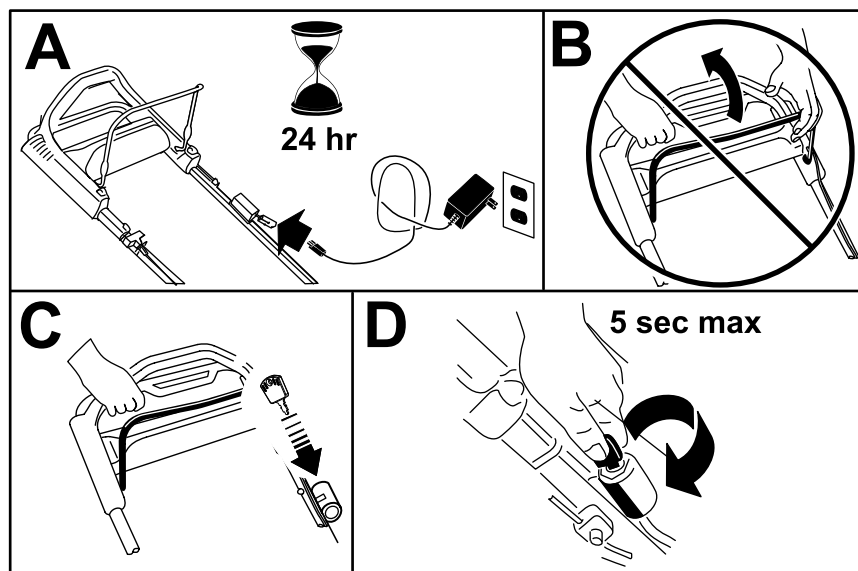

Figure 15
1. Charge the battery for 24 hours before using the machine for the first time (A of Figure 15).
**Important:** Do not attempt to start the engine with the blade-control bar engaged; otherwise, you may blow the fuse (B of Figure 15).
2. Insert the ignition key into the ignition (C of Figure 15).
3. Turn and hold the ignition key to the Start position; when the engine starts, release the key (D of Figure 15).